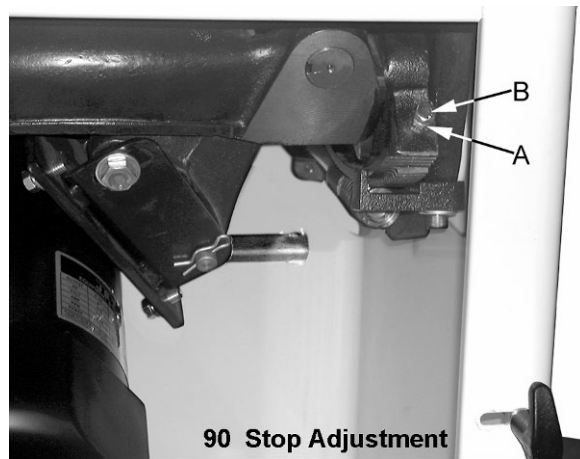

Figure 19
- If blade is not at 90 degrees, open the motor cover door, loosen lock nut (A, Fig. 19) and turn adjusting stop screw (B, Fig. 19) on the front trunnion in, or out. The adjusting stop screw should stop against the front trunnion bracket when the blade is 90° to the table.
- Tighten the lock nut (A, Fig. 19).
- If the blade is not 45 degrees, remove the raising and lowering handle. Loosen lock nut (A, Fig. 19) and turn adjusting stop screw (B, Fig. 19) on the front trunnion in, or out. The adjusting stop screw should stop against the front trunnion bracket when the blade is 45° to the table.